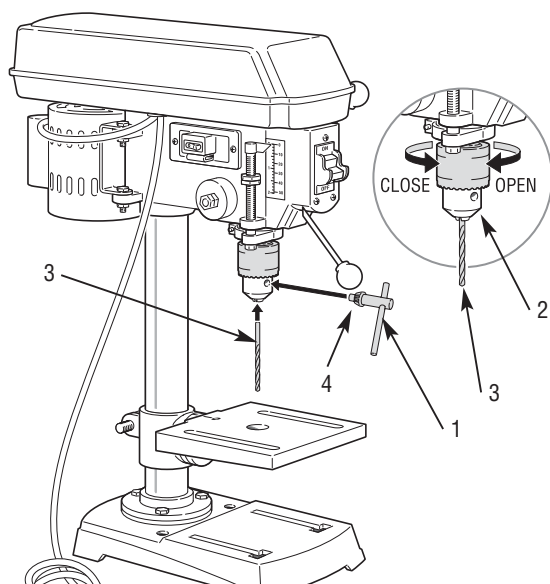

FIGURE 7.
1. Use the chuck key (1) to loosen the drill chuck (2). See Figure 7.
2. Insert the smooth end of the drill bit (3) into the drill chuck (2) as far as it will go.
3. Back the drill bit (3) out approximately 1/16" or up to the flutes for smaller bits.
4. Ensure the drill bit (3) is centered in the drill chuck jaws before tightening.
5. Use the chuck key (1) and tighten the drill chuck (2) locking the drill bit (3) in place.